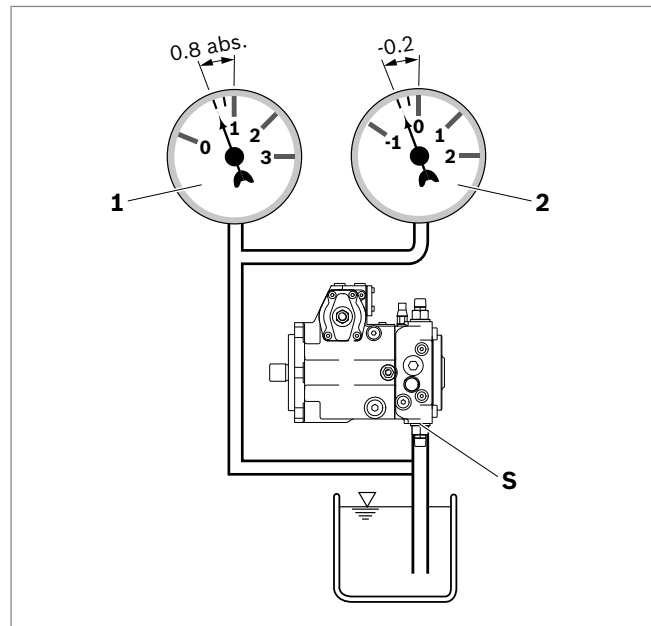

Fig. 9: Suction pressure
- ▶ Make certain that a minimum suction pressure of 0.8 bar absolute is present at port “S” (0.5 bar absolute for cold start) during operation in all installation positions and installation locations for the axial piston pump, see Fig. 9. See data sheet for pressure values.